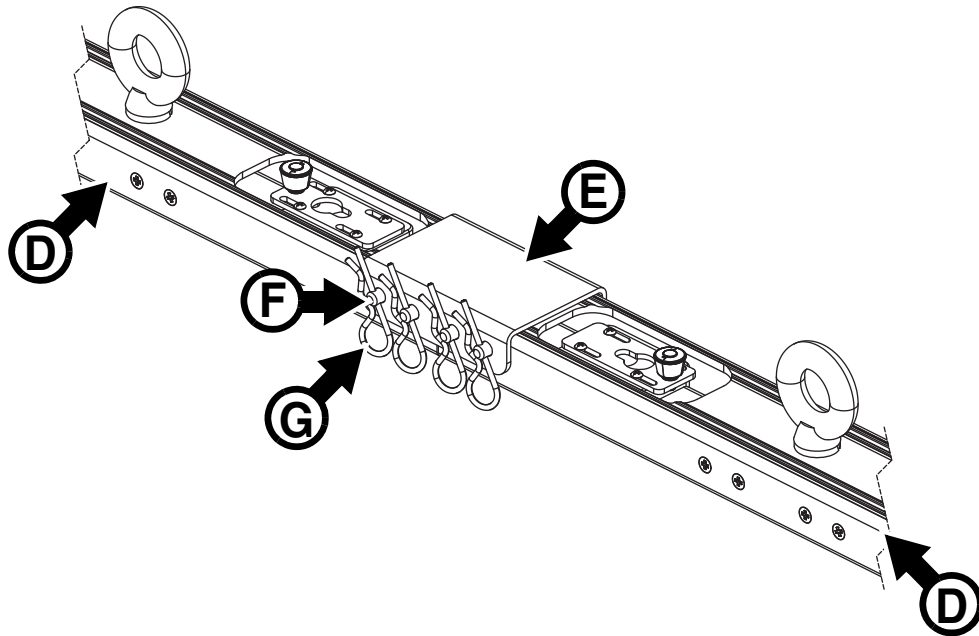

Figure 21: VDO Face Side Connection Brackets
1. See Figure 21. Each time you install two headers **D** beside each other, place a side connection bracket **E** over the ends of the headers and pass the four locking pins **F** supplied with the brackets through both the bracket and the headers.